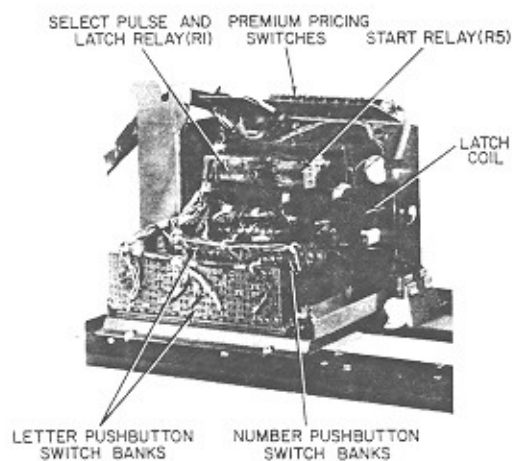

FIGURE 3-17. SELECTOR ASSEMBLY COMPONENTS
**Selector Assembly.** (See figure 3-17) The selector assembly is located above the title panel. It contains three pushbutton switch banks, a latch coil, a select pulse and latch relay, and a start relay. The pushbutton switch banks are designated A through K (no I), L through V (no O), and 1 through 0. Each pushbutton completes a circuit to a corresponding search unit commutator segment.